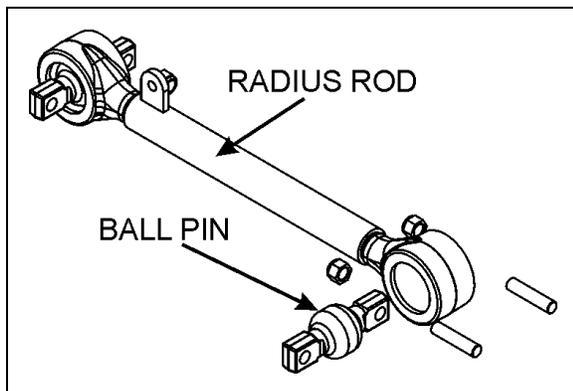

FIGURE 44: TYPICAL RADIUS ROD SETUP
1. Unscrew the nuts (or bolts) at each extremity of the radius rod (Figure 44).